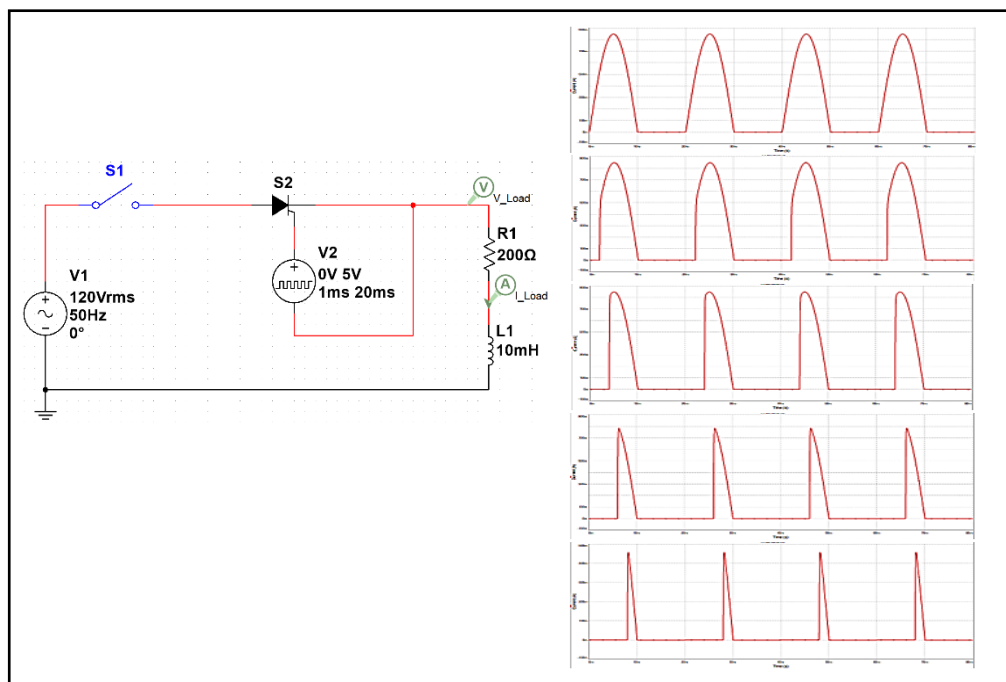

Fig 9.1: Circuit Diagram Showing SCR based Half Wave-Controlled Rectifier circuit with R-L load. Waveform Showing Output for Different Firing Angle.
- Make the circuit connection as per the Fig. 9.1.